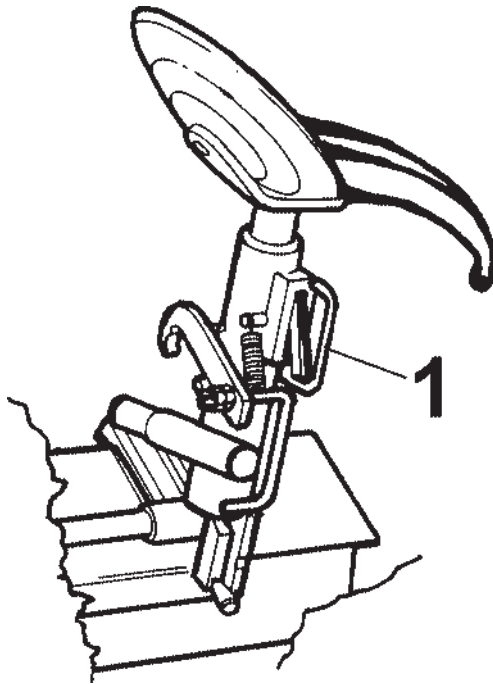

Fig.9
G. To turn the tool depress the handle (#1 Fig.9). Release the handle to lock the tool.